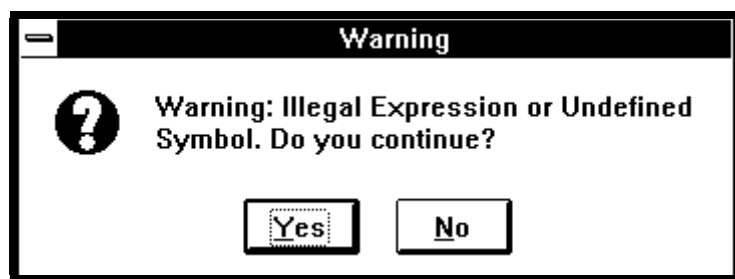

Figure 11-6 Warning dialog box
- If the address expression cannot be calculated correctly (e.g., symbols are undefined), the warning dialog box shown in Figure 11-6 appears. When you click on the **Yes** button in this dialog box, the address expression is registered as an invalid watchpoint. No memory contents are displayed for invalid watchpoints. (The address/bit display area is left blank and the data display area is always marked by a message "--<not active>--.")